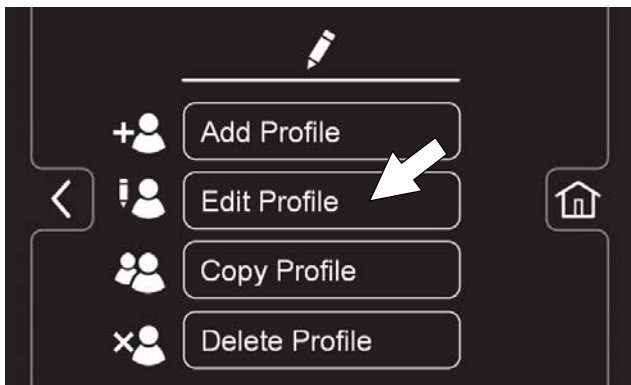

FIG. 180
3. Press the Edit Profile button (Figure 180).